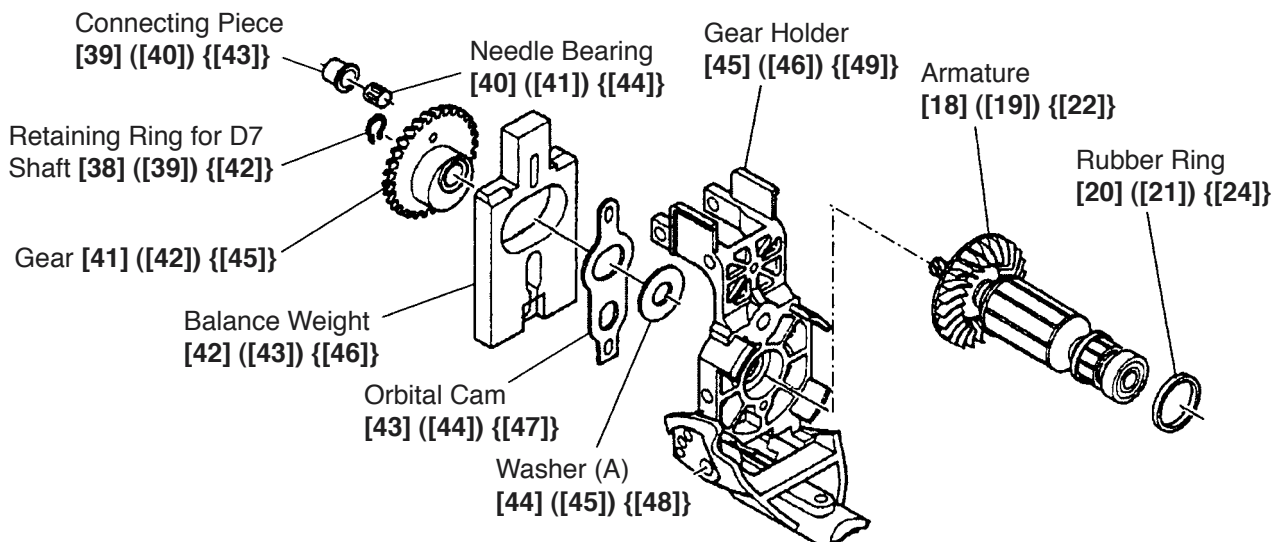

Fig. 10
(5) Disassembly of the Gear Holder [45] ([46]) {[49]} and the Armature [18] ([19]) {[22]} (Fig. 10)